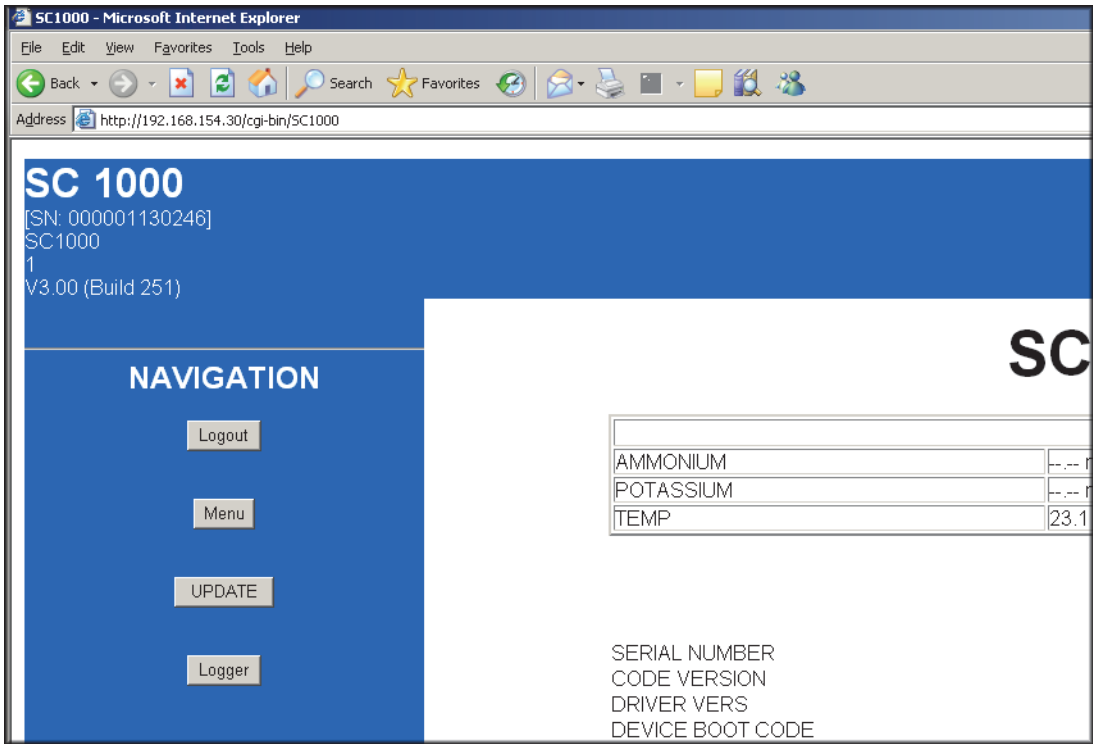

Figure 10 **UPDATE** button
6. Press the **UPDATE** button under NAVIGATION (Figure 10).